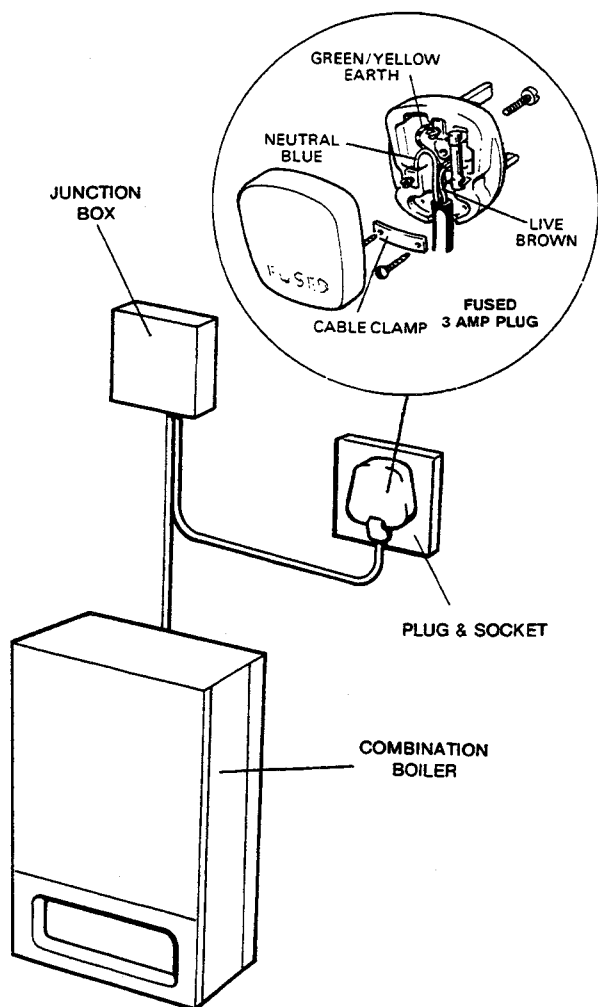

FIG. 7 BASIC WIRING ARRANGEMENT
(10) ELECTRICAL SUPPLY (see Figs. 7 and 8)
The combination boiler must not be used as a wiring centre for ancillary controls, it is therefore essential that a junction box is used. The method of connection to the mains electricity supply MUST provide means of completely isolating the electrical supply to the combination boiler and its ancillary controls, preferably by the use of a fused three-pin plug and shuttered socket-outlet, both complying with the requirements of BS 1363. (Fig. 7).